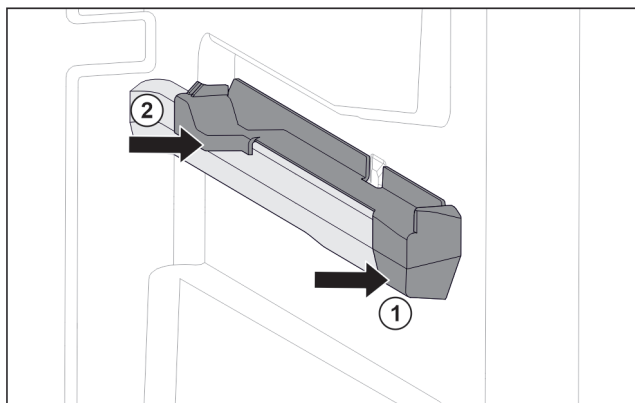

Fig. 150 Attachment on the right moulded rib
- ▶ Position attachment on moulded rib at the front. Fig. 150 (1)
- ▶ Press on attachment at the back. Fig. 150 (2)